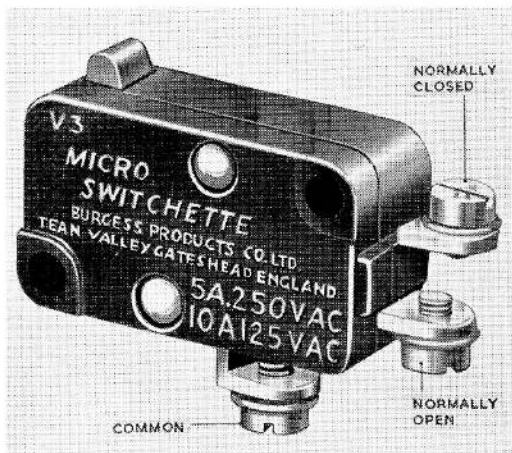

Fig. 1. Micro switchette, Type V.3
2. A typical switchette, Type V3, is shown in fig. 1. It has a rapid snap action and the